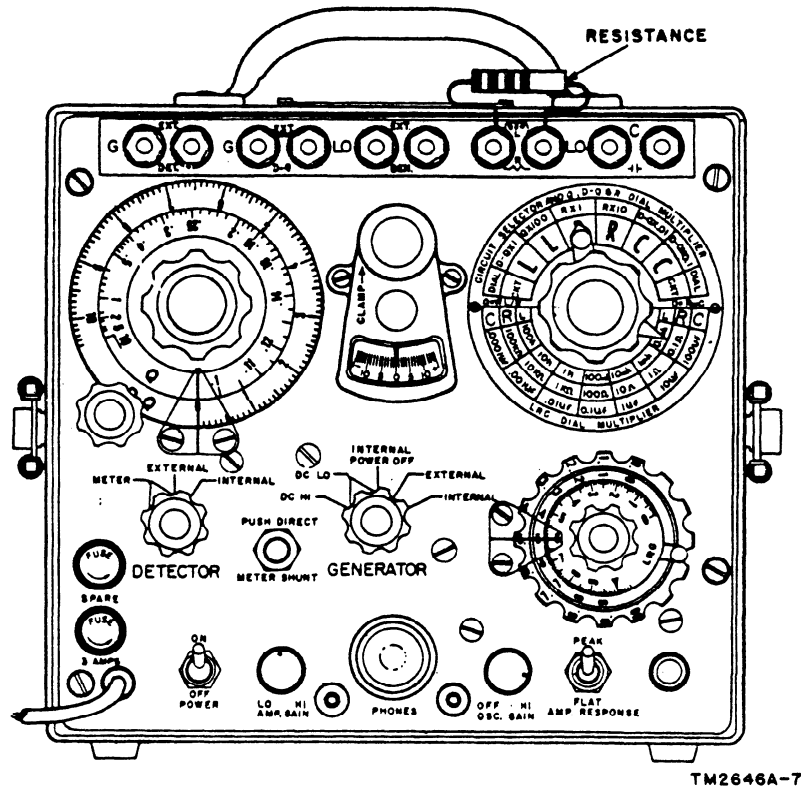

Figure 6. Bridge controls set for measurement of dc resistance (.001 ohm to 1 ohm).
- a. Lay the bridge on its back with the panel facing upwards and connect the unknown resistance ( $R_u$ ) to the binding posts marked L and R (fig. 6). Release the galvanometer movement by moving the clamp in the direction opposite to that indicated by
- (1) Loosen the screw on the right-hand side of the galvanometer zero adjustment knob 1 full turn.
- (2) Adjust the galvanometer zero adjustment knob until the needle indicates 0.
- (3) Tighten the screw ((1) above).
b. Operate the circuit selector switch to the R and R x 1 position (fig. 6).
*Example 1:* Settings of controls in figure 6 are for the final balance positions of a dc resistance of .556 ohm. Observe and interpret the control readings as follows:
Correction for internal resistance of the bridge are made when the bridge is used to measure resistances so low that the LRC DIAL MULTIPLIER is set at 0.1 on the R scale and the circuit selector switch is set at R and R x 1 as shown in figure 6 (resistances of less than 1 ohm). To make corrections for internal resistance of the bridge, proceed as follows:
*b.* If the test leads are not used, connect a short, heavy copper conductor (at least a #12 AWG, bare, copper wire) securely between the L and R binding posts of the bridge. These connections are made in the same way as those for the resistance shown in figure 6.